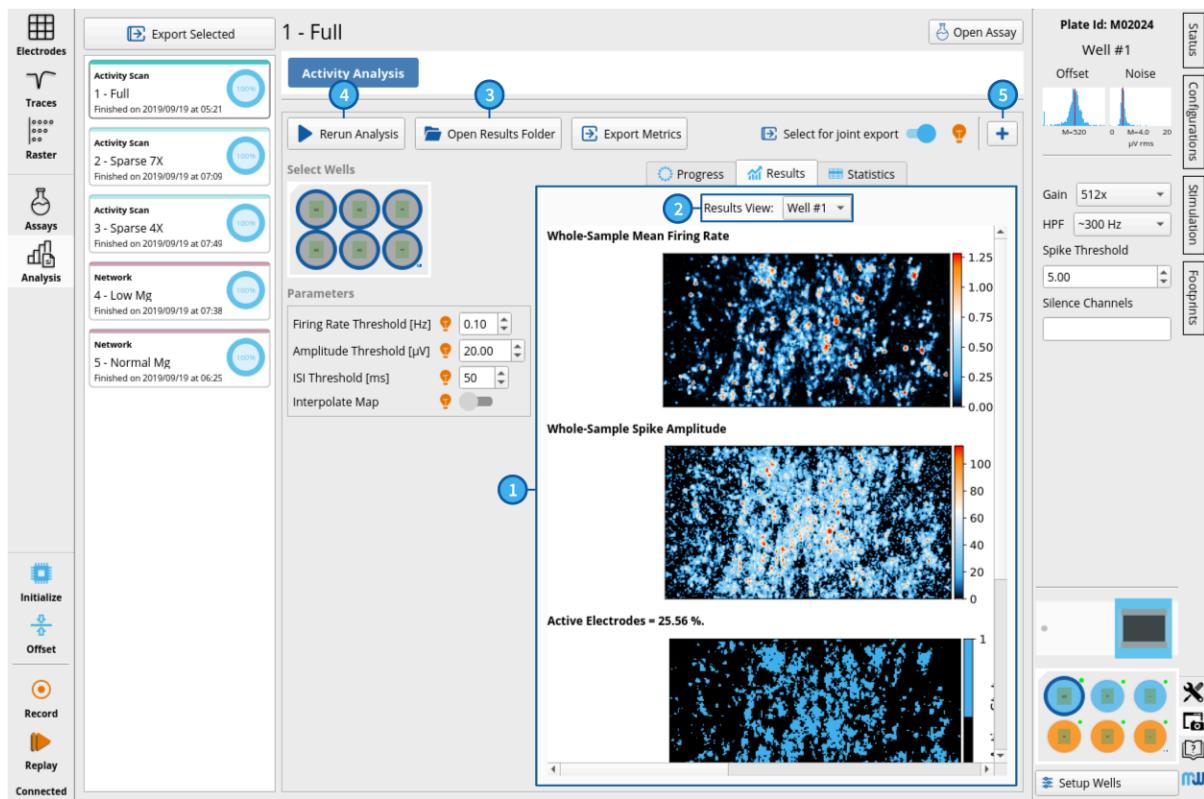

Figure 8.3. Results Tab
Analysis results are visualized in the GUI as soon as an analysis run is complete (Figure 8.3). This allows the user to have a quick overview of the analysis outcome.
(7) Open a New Analysis Trial
Clicking on the Plus icon creates an additional Analysis Trial (compare to Figure 8.3 (5)).
(8) Navigating/Deleteing the Analysis Trials